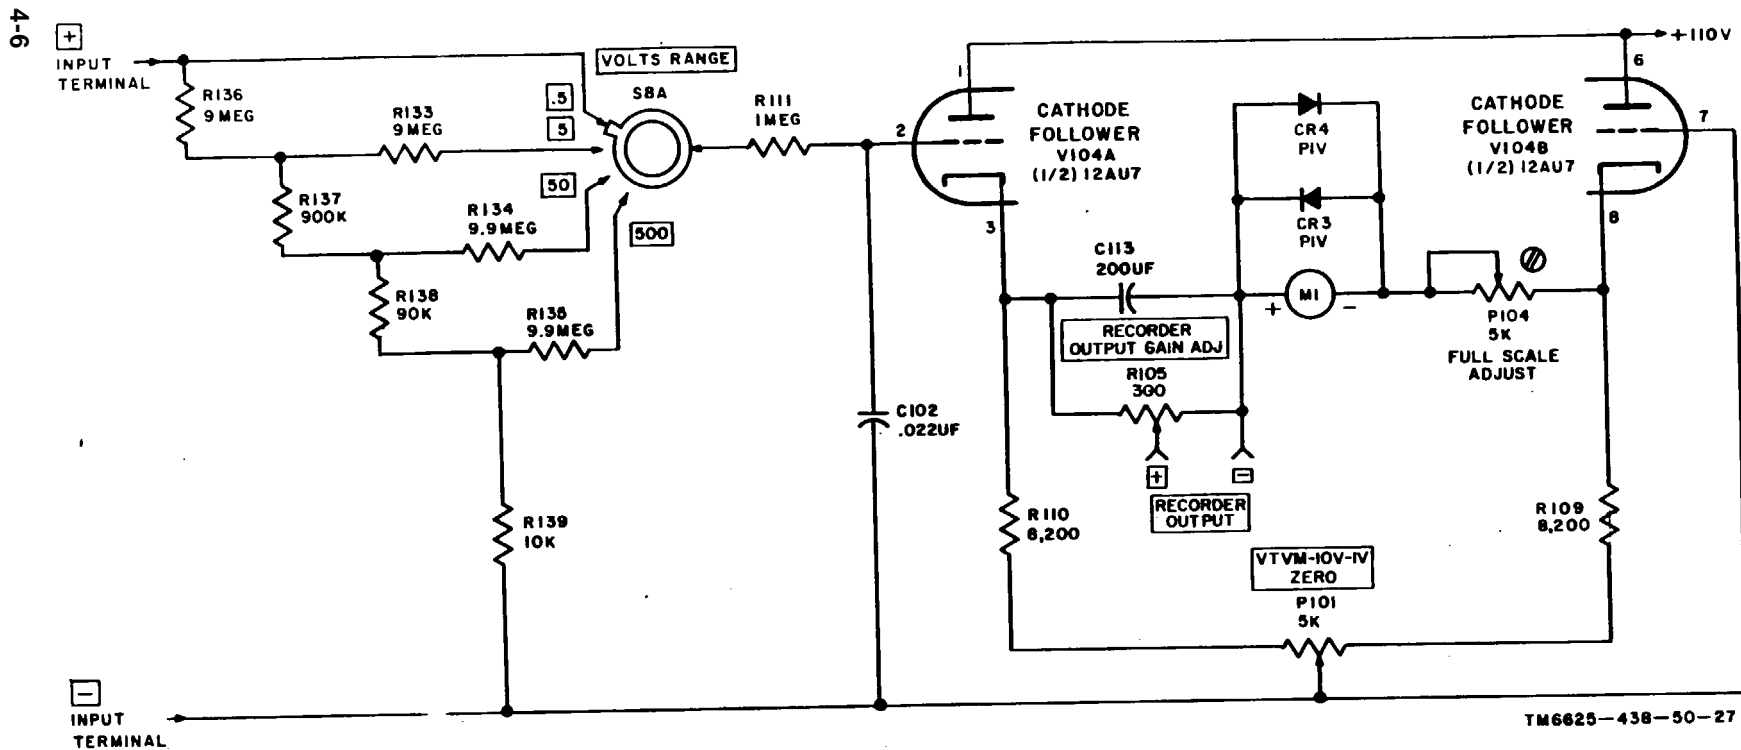

Figure 4-6. Vacuum-tube voltmeter mode of operation, simplified schematic diagram.
(figs. 4-6 and 9-5)
e. Vtvm Operation (fig. 4-6). The equipment is operated as a direct reading vtm when the NULL switch is set to the VTVM position. The input voltage is applied to voltage divider resistors R136 through R139. Stepped down voltages are selected by VOLTS RANGE switch S8A so that 0.5 volt applied to the grid of V104A of the balanced bridge results in full-scale deflection on meter M1 for the selected range. Resistor R133, R134, or R135 is connected in series with R111 in the applicable range position to maintain a constant input resistance of approximately 11 megohms at the grid of V104A with respect to the - input terminal.